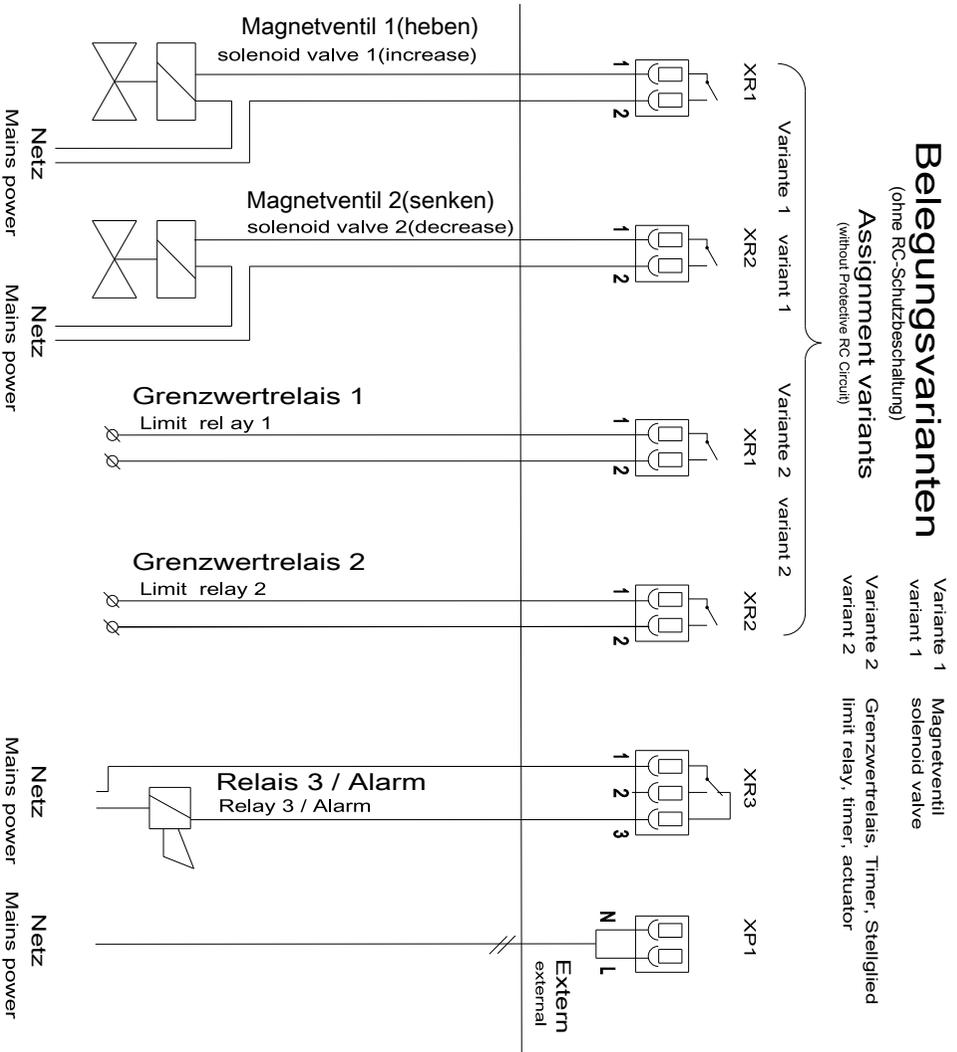

Fig. 11: Terminal diagram with assignment options 1
2. Fit screw connection (1), pressure ring (2) and seal (3) onto cable
8. Connect up the wires to the terminals according to the electrical wiring diagram Fig. 11